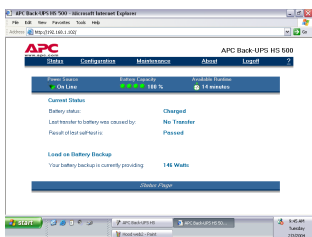

Figure 13. Back-UPS HS 500 Status Screen
12. Before performing any UPS maintenance task, check the Status of the UPS by clicking on the Status link. The screen shown in Figure 13 will be displayed.